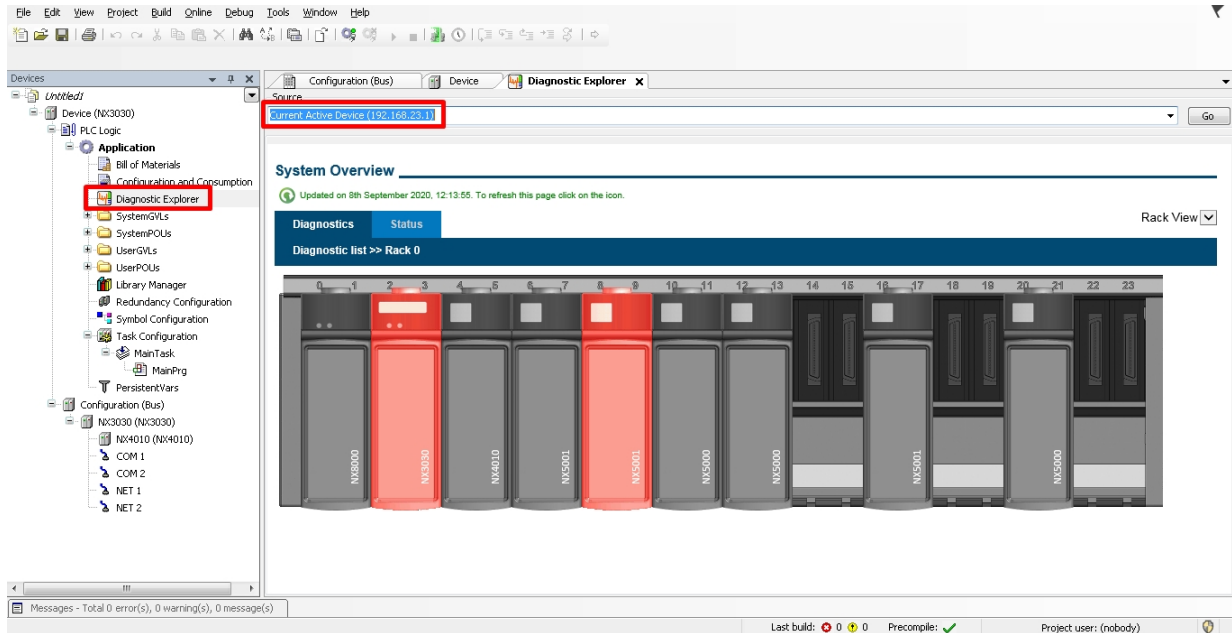

Figure 147: Diagnostic Explorer Screen
- Accessing the “*Diagnostic Explorer*” option in the device tree, placed on the MasterTool IEC XE screen left, and putting the correct IP in the field indicated on Figure 147. Remembering that for the diagnostics page to be shown, the user must be connected to the CPU (Initial Programming – Login section).